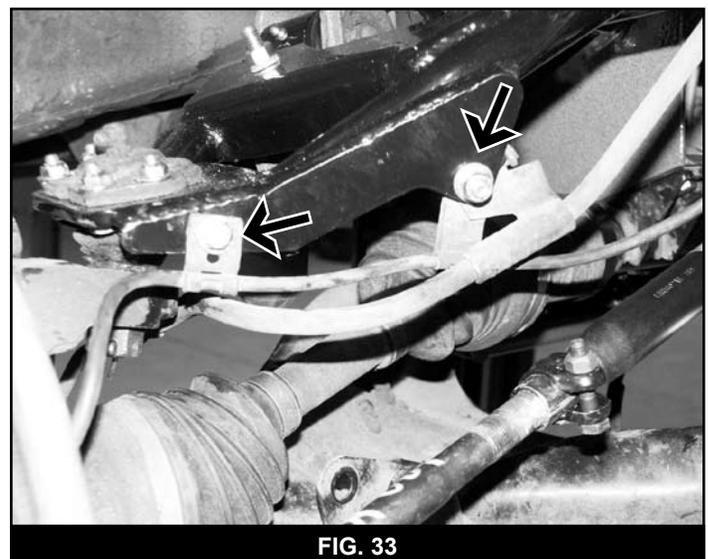

FIG. 33
67. Attach the ABS wire bracket to the new control arm in the hole nearest to the ball joint using a 1/4" x 1" bolt, nut and SAE washers from bolt pack #515 (Fig. 33).
68. Attach the brake line bracket to the hole provided in the control arm using the OE bolt and nut (Fig 33).